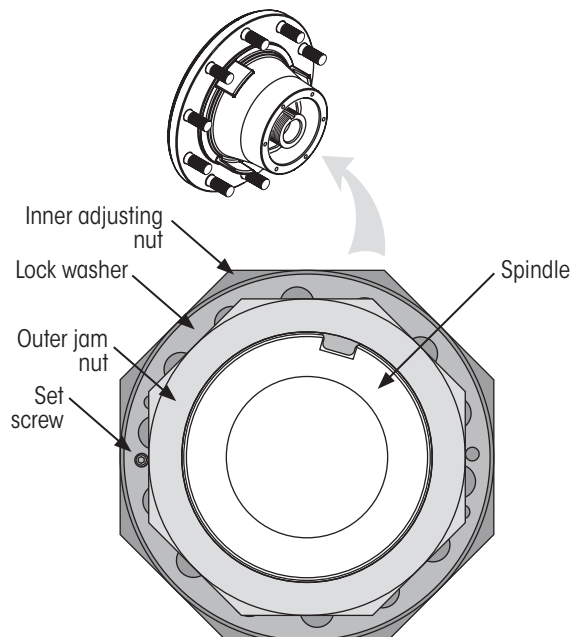

Figure 7: Three-piece nut system components
One of four spindle nut systems (Figure 7 through Figure 8) is used to secure a standard service hub to the spindle/axle:
- A. **Standard** three-or four-piece nut (Figure 7) -